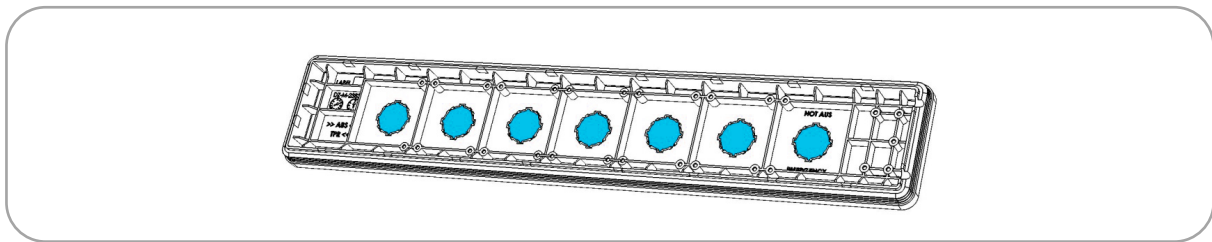

Figure 13: Prepunched openings in key module
- ➔ Punch the required Ø 22.5 mm openings in the front coversheet from behind, or cut them out. The openings are highlighted in Fig. 13.